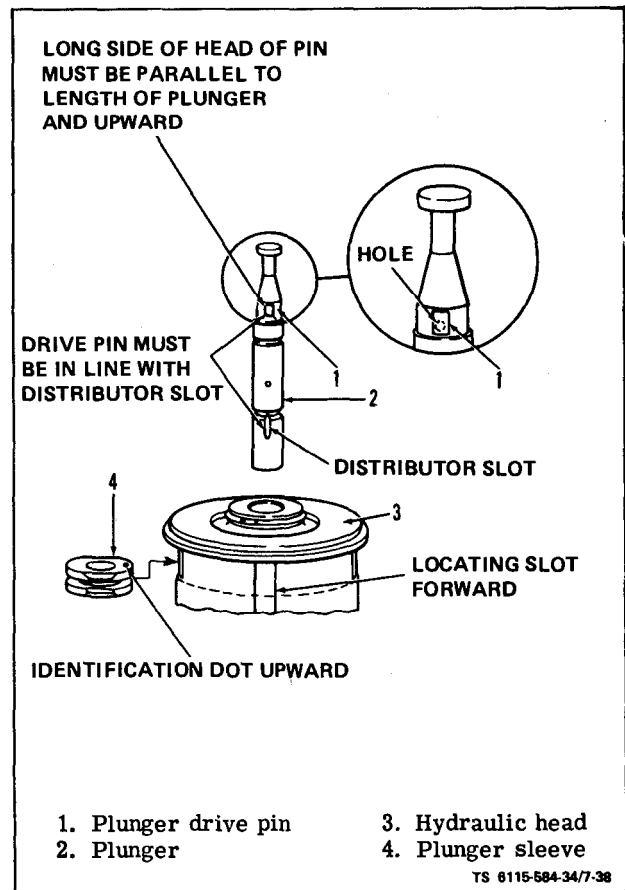

Figure 7-38. Assembling Hydraulic Head
(1) After all parts have been thoroughly cleaned and inspected and after all worn units have been replaced, dip the individual parts in clean fuel oil.
(2) Invert the hydraulic head (17) and place it on a clean bench so that the head locating slot is forward.
(3) Refer to figure 7-38 and align the plunger drive pin (1) into the plunger (2) so that the head of the plunger drive pin is in the line with the distributor slot. Turn the plunger drive pin until its long side is parallel to the length of the plunger with long end up.
Do not use excessive pressure. If gear will not snap into place easily, remove gear and check to see that spring ring (27) is centered, and that plunger drive pin (1, figure 7-38) is properly aligned.